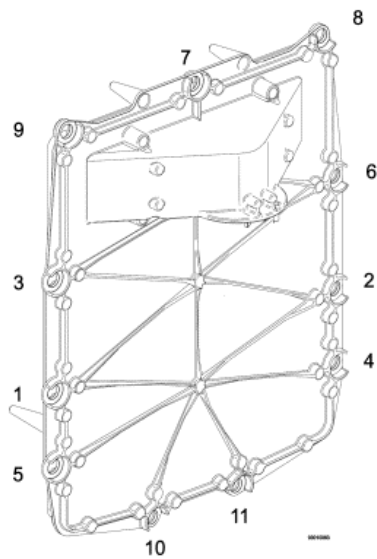

Figure 45: Tighten Allen bolts in cross pattern direction.
2. Place the heat exchanger cover onto the heat exchanger and loosely install the 6mm Allen bolts removed in step 6. Tighten the 6mm hex bolts in a cross pattern as shown in the Figure 45.